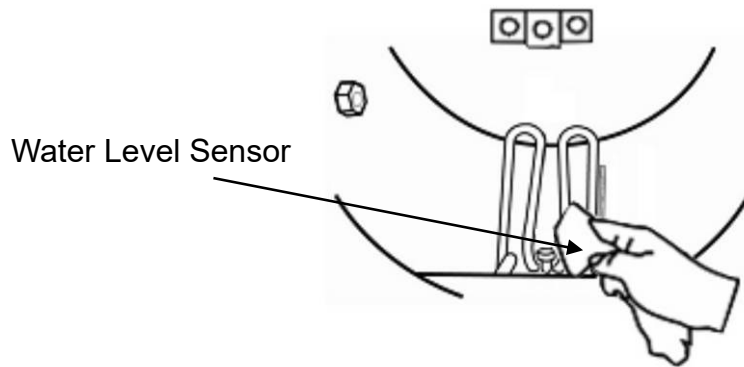

Figure 52
- Use the non-corrosive cleaner and stiff bristled brush or sponge to clean the water level sensor at the front of the chamber as Figure 52.